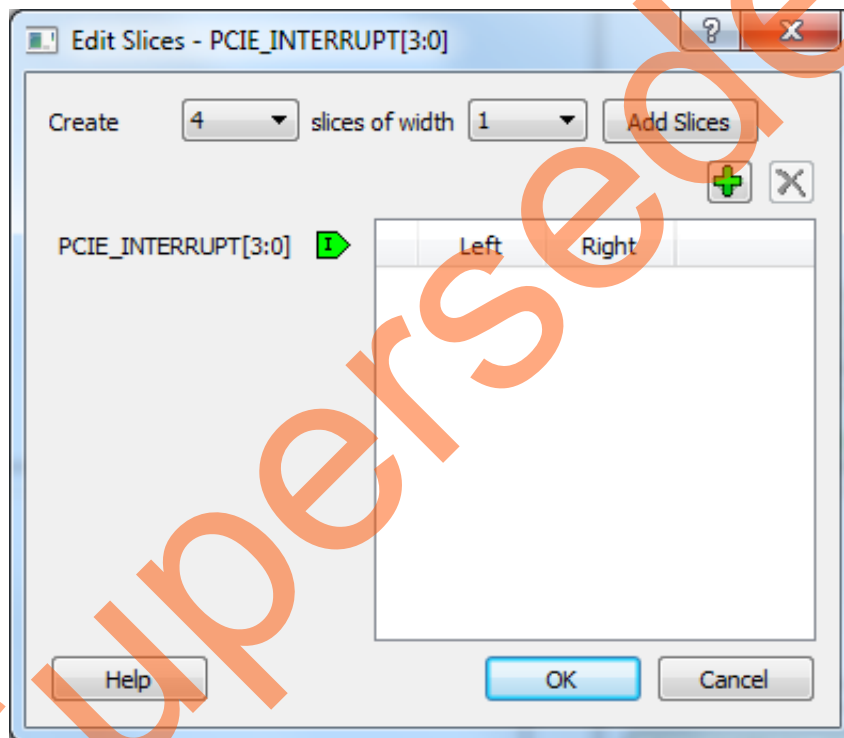

Figure 30 • Edit Slices
29. The PCIe supports four interrupts. This design uses only one interrupt out of four by connecting the unused interrupts to logic '0'. To connect the unused interrupt pins to logic '0', split the interrupt pins to two groups. To do that, right-click the **PCIE_INTERRUPT[3:0]** of **SERDES_IF_0** and select **Edit Slice**. The **Edit Slice** window is displayed as in Figure 30.